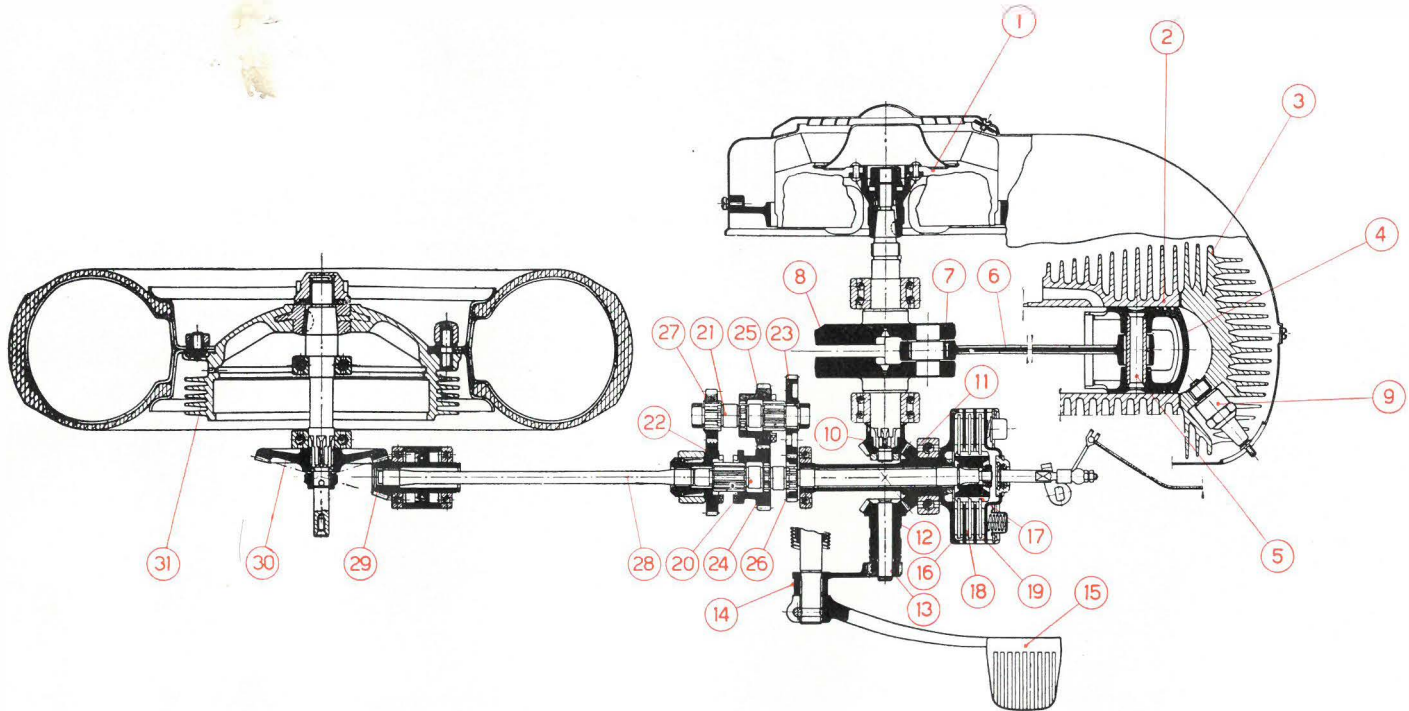

Fig. 6
The connection for the speedometer drive is to be found on the transmission case (see detail n. 32 - fig. 6).
The crankcase and transmission case are of cast silumin heat treated and, besides performing the function previously indicated, serve to enclose the main engine components. On the left side of the crankcase the flywheel magneto is placed (1) - see fig. 6 - which together with the H.T. coil generates the H.T. current for the petrol ignition and provides also the L.T. current to supply lamps and horn.